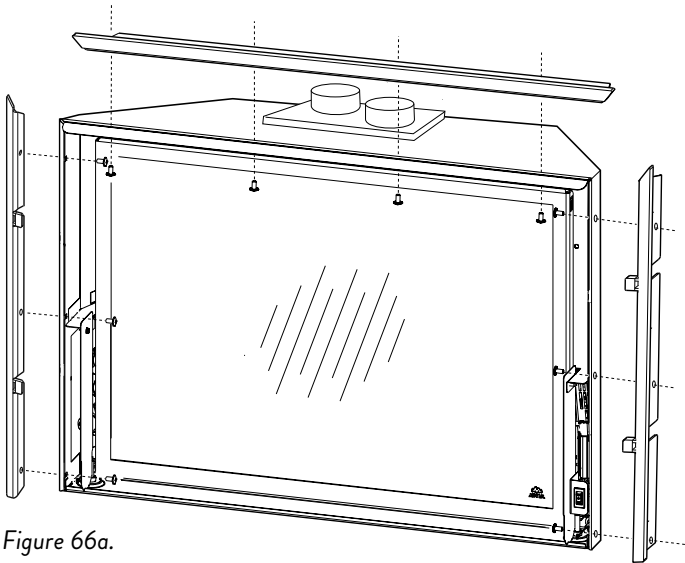

Figure 66a.
1. Attach each bracket using the 10 M6 x 8 phillips head screws provided, as shown in fig. 66a.